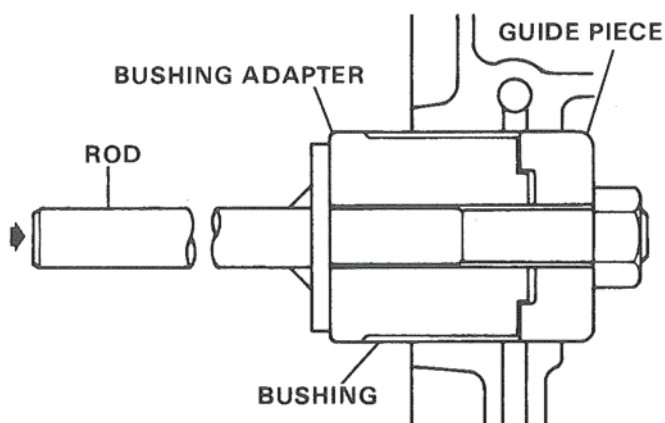

Figure 45. Installing Camshaft Bearing.
6. Place guide end into bore, align oil hole in bearing with oil hole in bore and press bearing in. Figure 45.